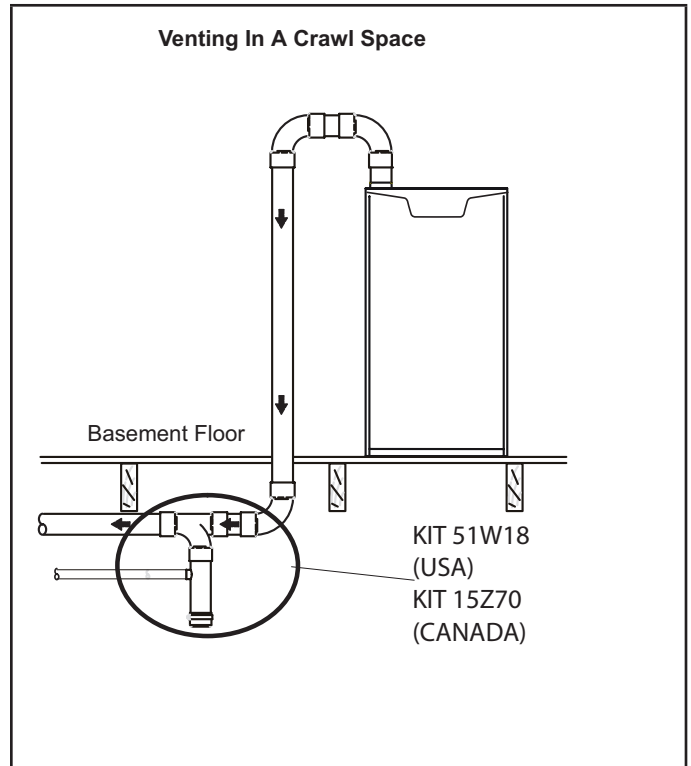

FIGURE 47
Lennox provides kit 51W18 (USA) kit 15Z70 (Canada) to install 2" or 3" PVC exhaust piping through the floor joists and into the crawl space. See "FIGURE 47". This kit can also be used as a supplemental drain for installations with condensate run back in the vent pipe (ie. long horizontal runs, unconditioned spaces, etc.).
- 2 - Use a large flat head screw driver or a 1/2" drive socket extension and remove plug (figure 47) from the cold end header box at the appropriate location on the side of the unit. Install provided 3/4 NPT street elbow fitting into cold end header box. Use Teflon tape or appropriate pipe dope.